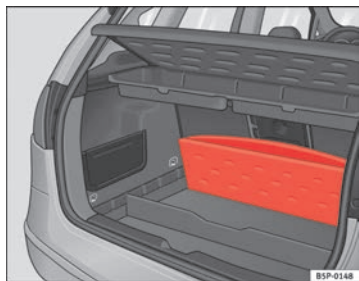

Fig. 106 Foldable luggage compartment cover
- Lift the luggage compartment floor and fold it back all the way ⇒ fig. 106.